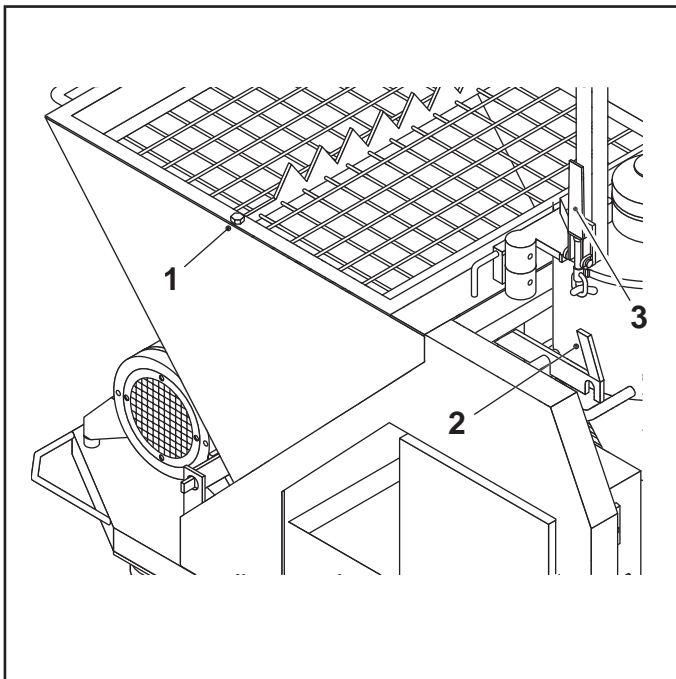

FIG.16
- Check that the protection grill on the hopper is regularly fixed using the screw indicated in the figure (FIG.16-REF.1).
- Check that the mixer unit is regularly blocked (FIG.16-REF.2) and the motor reducer mount closure hook (FIG.16-REF.3) is closed well.